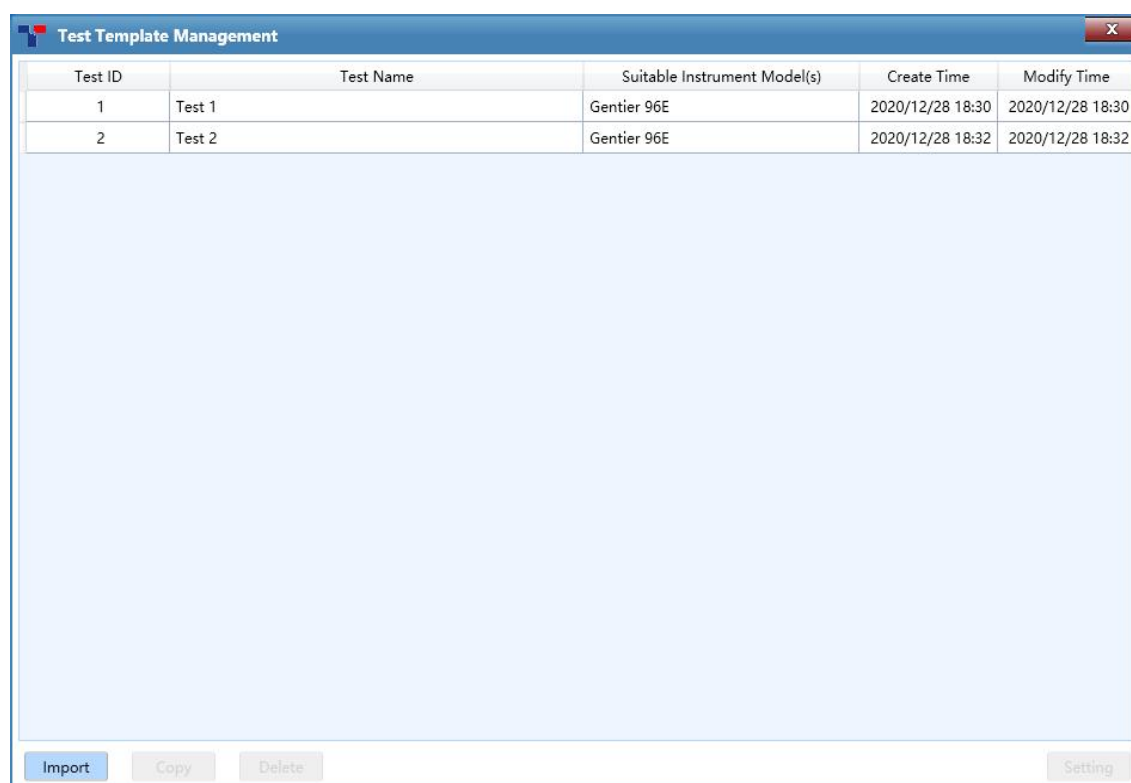

Figure D-3.6. Test Template Management
2. **Test Template Management**: click the **Test Template Management** in **Tool** submenu and the application software will automatically pop up the test template management interface, as shown in figure D-3.6.